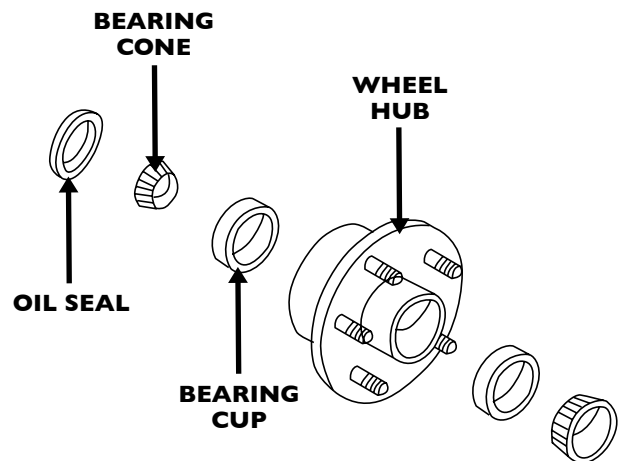

Fig 19. Wheel Hub and Bearings
1. After every 3 months of operation, remove the hub dust cap and inspect the wheel bearings (Figure 19). Once a year, or when required, disassemble the wheel hubs remove the old grease and repack the bearings forcing grease between rollers, cone and cage with a good grade of high speed wheel bearing grease (**never** use grease heavier than 265 A.S.T.M. penetration ("No. 2."))
Fill the wheel hub (Figure 19) with grease to the inside diameter of the outer races and also fill the hub grease cap. Reassemble the hub and mount the wheel. Then tighten the adjusting nut, at the same time turn the wheel in both directions, until there is a slight bind to be sure all the bearing surfaces are in contact.